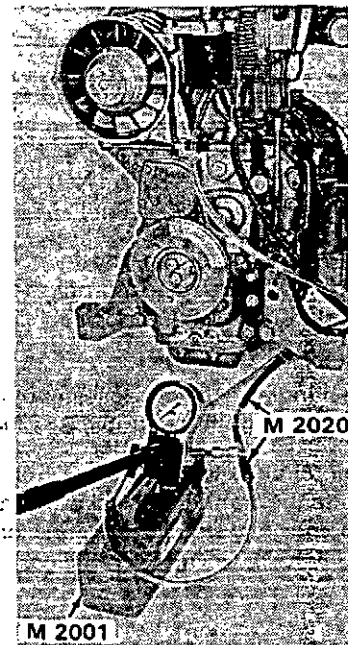

Figure 7
8. On the injection pump, remove the high pressure line that corresponds to the cylinder for which TDC was found and install the drip tube (part of M 2020 line kit). See Figures 7 and 8.
9. Also on the injection pump, remove the low pressure feed line and, using new copper gaskets, install the high pressure line from the nozzle tester. See Figures 7 and 8.